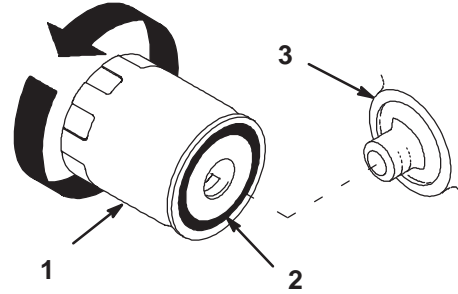

Figure 23
2. Remove the old filter and wipe the filter adapter (Fig. 23) gasket surface.
5. Apply a thin coat of new oil to the rubber gasket on the replacement filter (Fig. 23).
6. Install the replacement oil filter to the filter adapter. Turn the oil filter clockwise until the rubber gasket contacts the filter adapter, then tighten the filter an additional 1/2 turn (Fig. 23).